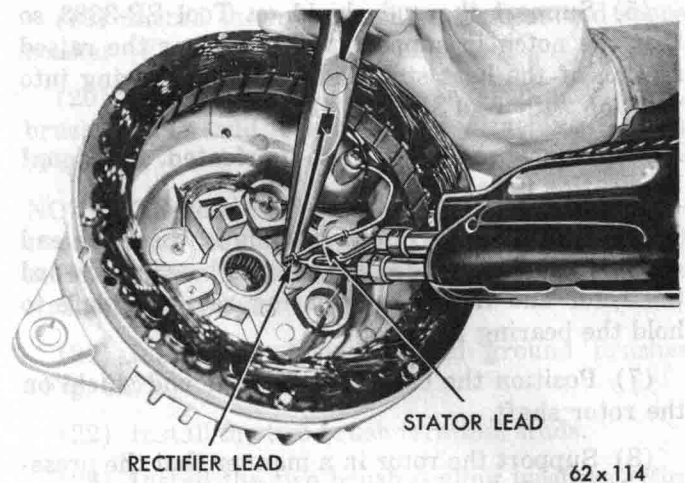

Fig. 56—Soldering Rectifier and Stator Leads
(4) Solder the wire lead to the wires disconnected at removal. Hold the wire lead with pliers (Fig. 56) while soldering it. This will help to dissipate heat, protecting the rectifier.